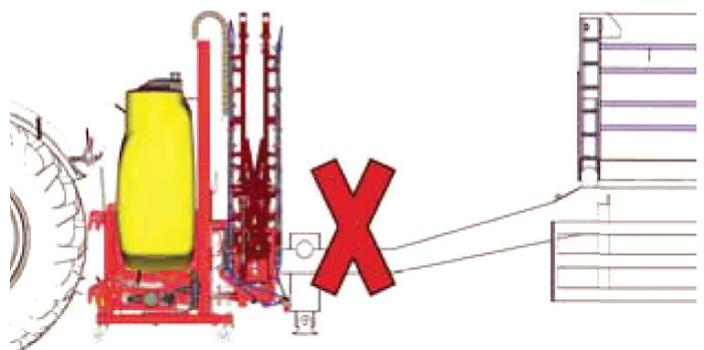

Figure 6
26) Do not connect any equipment behind the machine. (Figure 6)